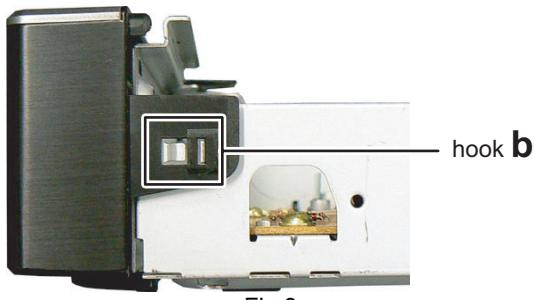

Fig.3
- (3) Disengage two hooks **b** engaged both side of the Front panel. (See Fig.3)